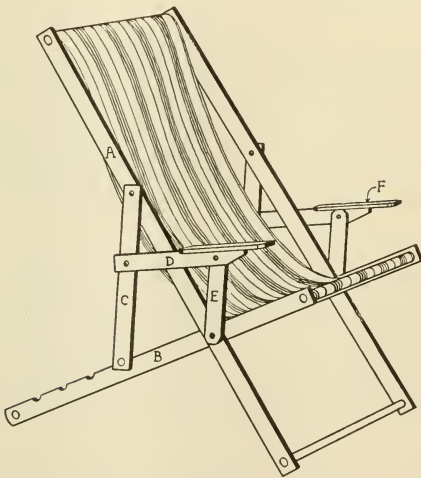

FIG. 37.—PORCH CHAIR ASSEMBLED.
6. **Assembling the pieces.** — (1) Fit and glue the rounds into *A* and *B* (Fig. 37). The distance between pieces *A* when fastened together should be 2' 3'', inside measurements. The distance between pieces *B* should be 2' 3'', outside measurements, as this pair must fit inside the first pair. (2) Fasten pieces *A*, *B*, and *E* together with the carriage bolts $3\frac{3}{4}$ '' long, heads outside. (3) Fit round to pieces *C* so that they are 2' 3'' apart, inside measurements. (4) Fasten the other ends of pieces *C* to *A* with carriage bolts $2\frac{1}{2}$ '' long. (5) Fasten pieces *D* to pieces *C* with carriage bolts $2\frac{1}{2}$ '' long. (6) Fasten pieces *E* to pieces *D* with carriage bolts $2\frac{1}{2}$ '' long. (7) Fasten pieces *F* to pieces *D* with screws. (8) Fasten the canvas to the upper round of pieces *A* and *B* with heavy tacks, doubling under the canvas while tacking.